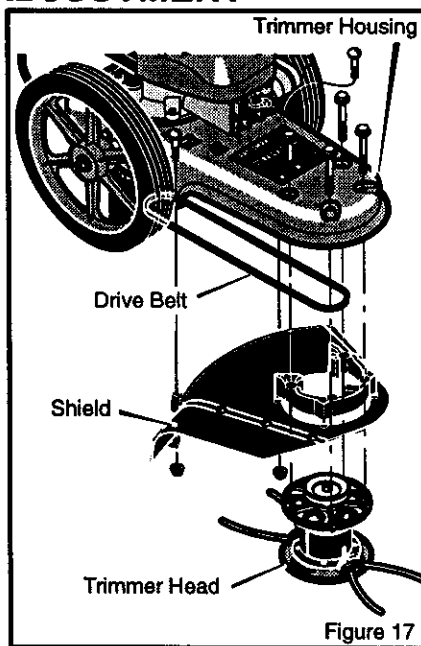

Figure 17
1. Remove the two fasteners that hold the rear of the shield to the trimmer housing (See Figure 17).